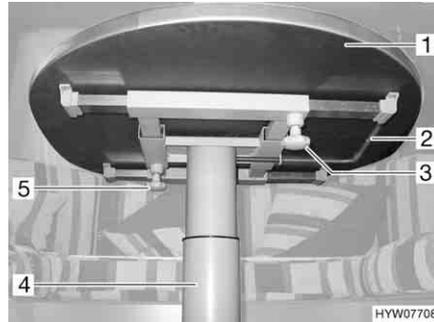

Fig. 84 Lift-off table
- Undo the knurled screw (Fig. 84,5).
- Move the table-top (Fig. 84,1) to the desired position.
- Undo the knurled screw (Fig. 84,3).
- Swivel the lever (Fig. 84,2) under the table top (Fig. 84,1) by 180° to the left. The lifting mechanism in the table leg (Fig. 84,4) is unlocked.
- Swivel the lever (Fig. 84,2) under the table top (Fig. 84,1) by 180° to the left. The table-top moves upwards to the limit stop.